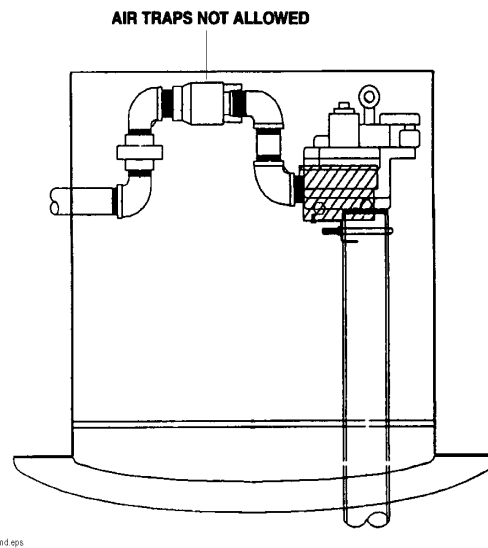

Figure 4. Incorrect Piping Method
- When installing the check valve, avoid creating traps where air can accumulate. (See Figure 4. This configuration creates an area which can collect air and may cause selftest failures.)